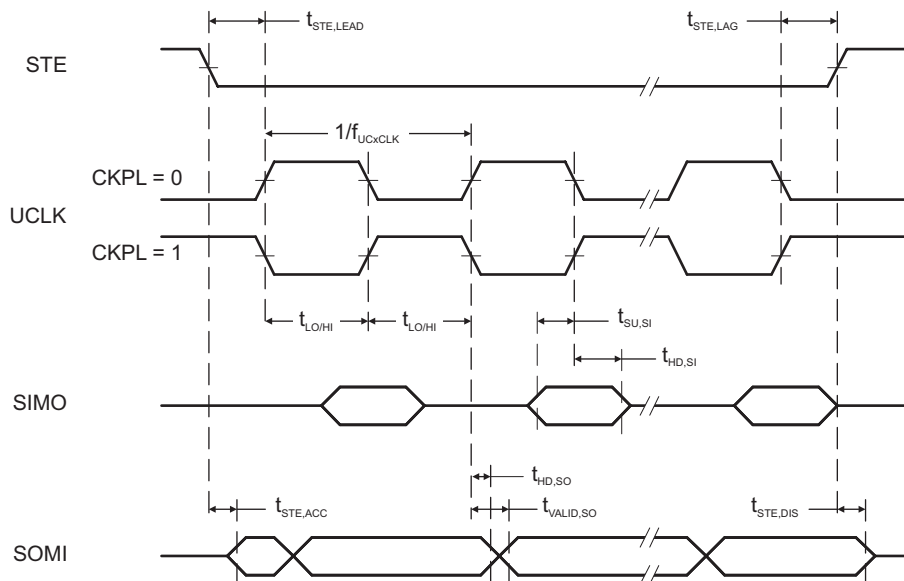
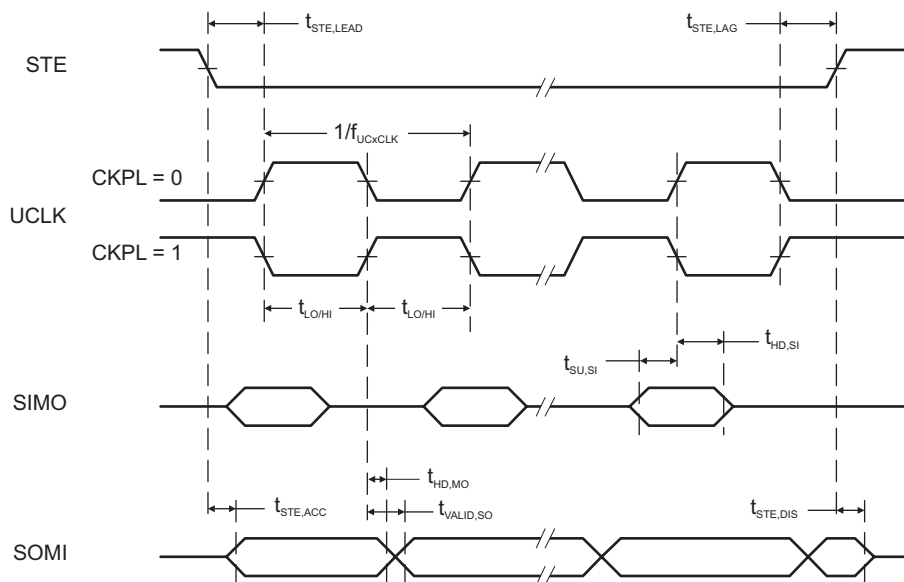

Figure 5-18. SPI Slave Mode, CKPH = 0
Figure 5-19. SPI Slave Mode, CKPH = 1
over recommended ranges of supply voltage and operating free-air temperature (unless otherwise noted)⁽¹⁾ (see Figure 5-18 and Figure 5-19)
- (2) Specifies the time to drive the next valid data to the SOMI output after the output changing UCLK clock edge. See the timing diagrams in Figure 5-18 and Figure 5-19.
- (3) Specifies how long data on the SOMI output is valid after the output changing UCLK clock edge. See the timing diagrams in Figure 5-18 and Figure 5-19.